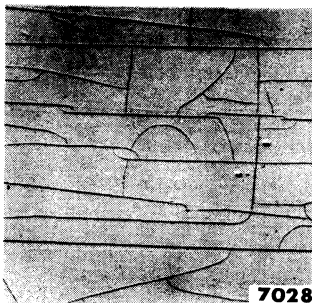

Fig. 34—Checking—Line
(14) **CHECKING.** "Line checking" has the appearance of thin, straight lines criss-crossing each other (fig. 34). These lines may be from one-half inch to four inches, or longer, increasing in length as the finish ages.